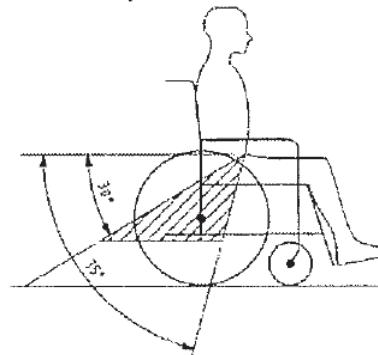

figure 4
This place is marked on the wheelchair with a symbol. (figure 4)
11. This place is marked on the wheelchair with a symbol. (figure 4)